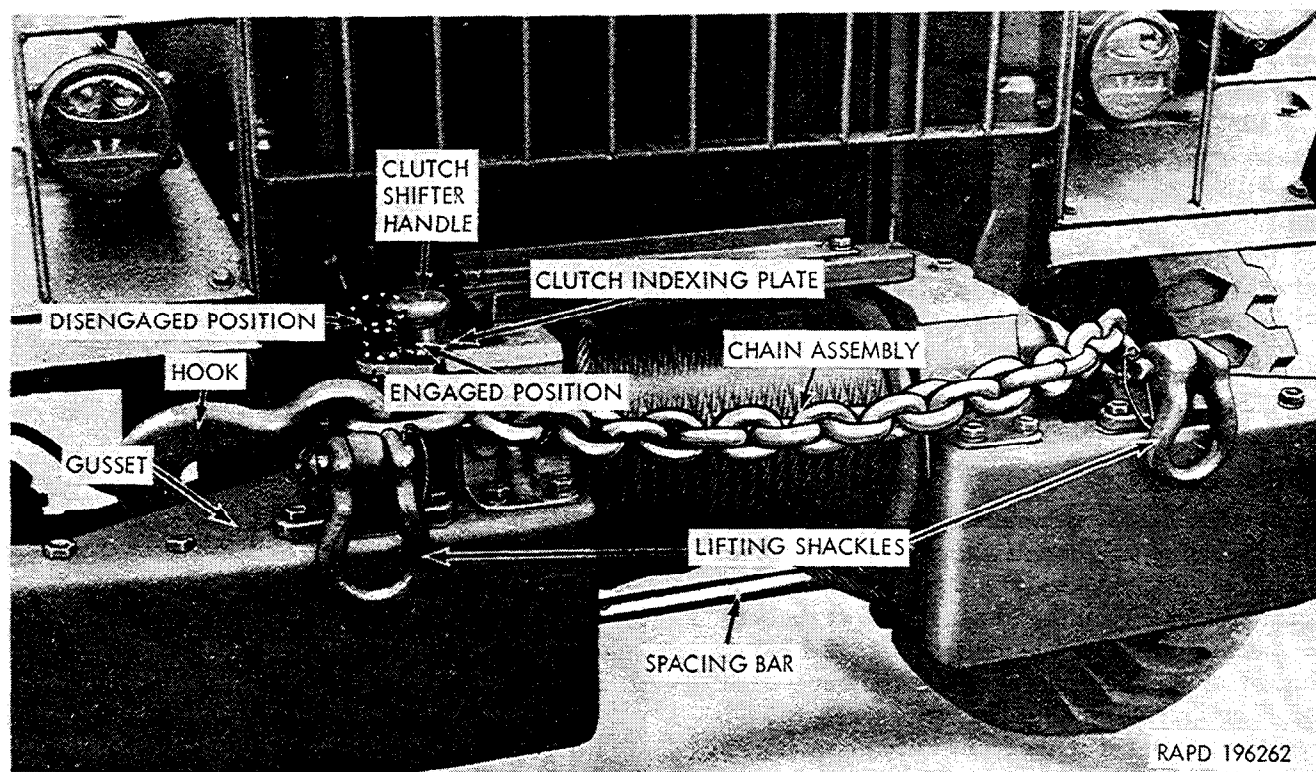

Figure 2-172. Winch installed.
handle in the DISENGAGED position (fig. 2-172) and unwind all the cable from the drum. Remove
(4) Release the clutch pedal and depress the accelerator pedal.
(5) Operate the engine at an even speed to wind the cable.
(6) To stop the cable, depress the clutch pedal and release the accelerator pedal. The winch safety brake will hold the load.
(7) Place the power-takeoff shift lever in the wind (forward) position. If all the cable has been unreeled from the drum, guide the cable as it winds to keep the first layer of coils as close together as possible, thus preventing the next layer from pressing in between the coils of the preceding layer. After winding the cable on the drum, route the winch chain assembly under and over the left frame member, extend it across the front of the winch, and hook it over the right gusset (fig. 2-172). After the chain assembly has been secured, place the clutch shifter handle in the engaged position to prevent free spooling of drum. Clean and lubricate the cable and drum as prescribed in the lubrication order (LO 9-2320-212-12).